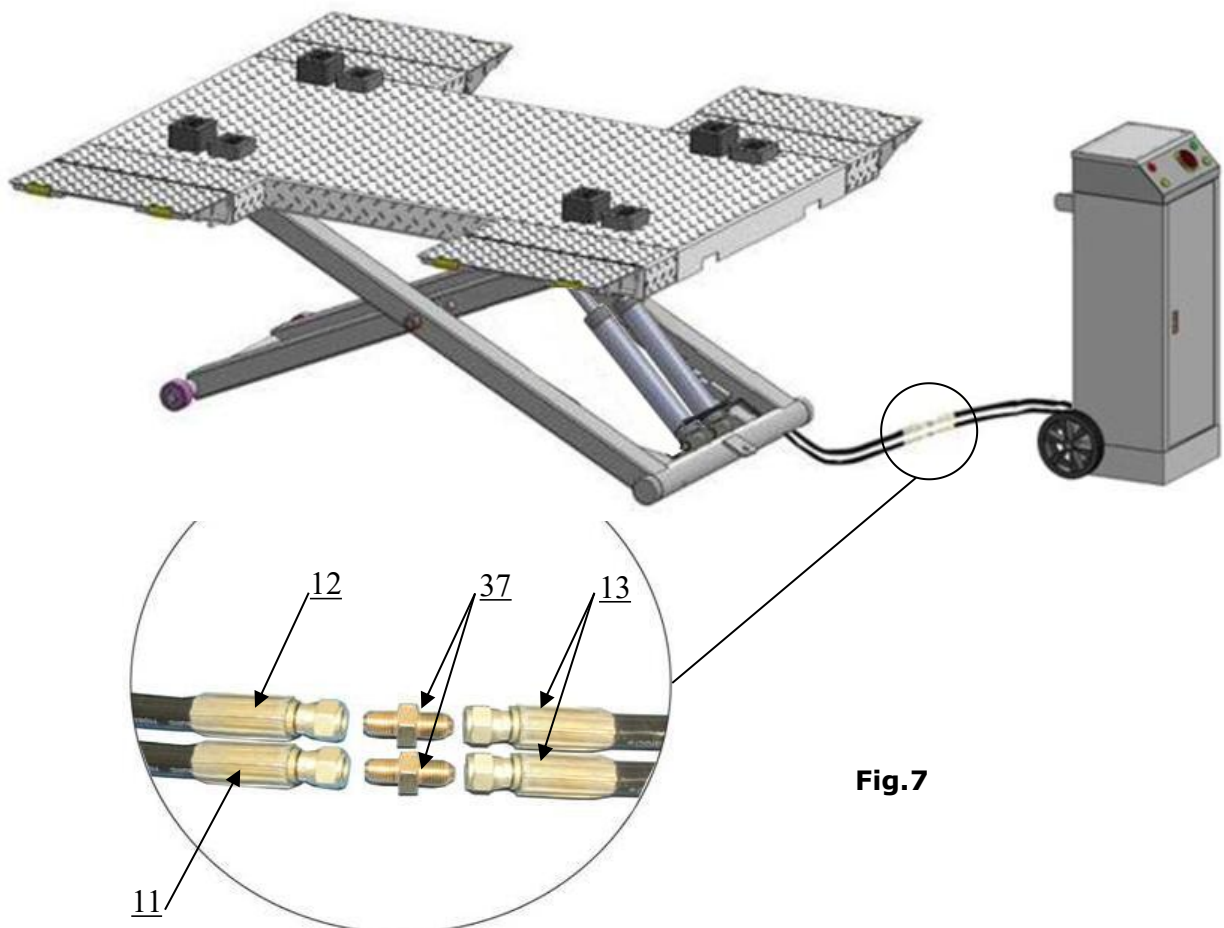

Fig.7
C. Lay out the lift and control cabinet according to step A and connect oil hoses (See Fig. 7).